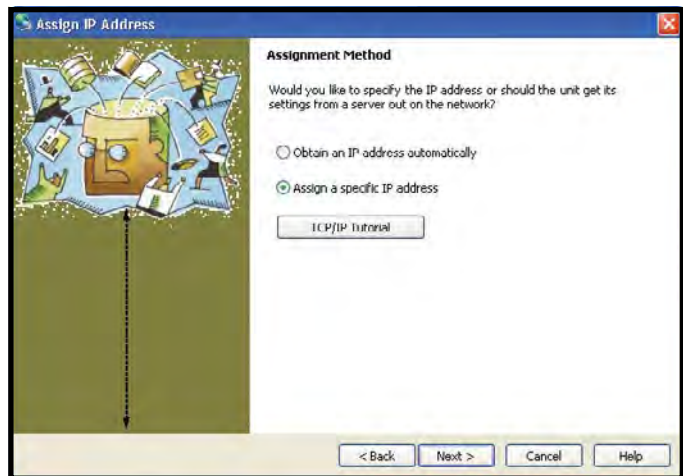

Figure 67. Assign IP Address, Assignment Method window
- VII. Select “Assign a specific IP address” then click on the “Next >” button (see Figure 67).